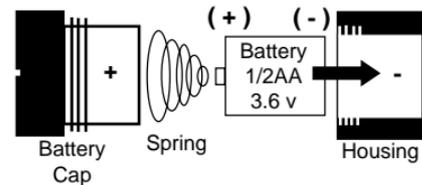

Fig. 110 - Battery Installation
- Insert the spring into the cap with the large end first (small end facing out), and insert the battery into the housing (Fig. 110). For the Transmitter, the positive (+) end of the battery goes into the housing first with the negative (-) end toward the cap. For the Display Module, the negative (-) end of the battery goes into the housing first with the positive (+) end toward the cap.